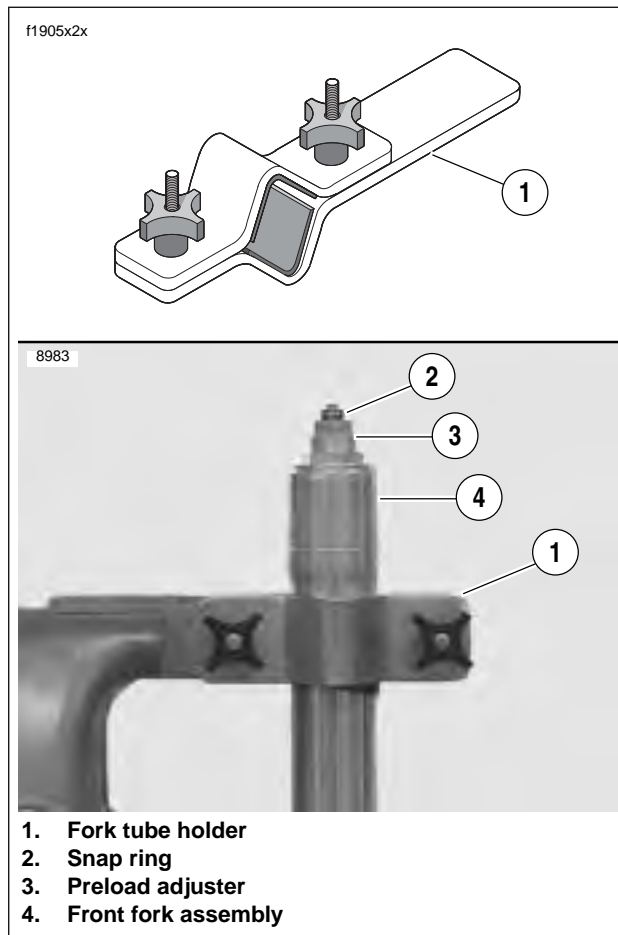

Figure 2-61. Fork Tube Holder (HD-41177)
2. See Figure 2-61. Clamp the FORK TUBE HOLDER TOOL (1) (Part No. HD-41177) in a vise and install the upper part of the front fork in the holding tool.
3. Remove snap ring (2).